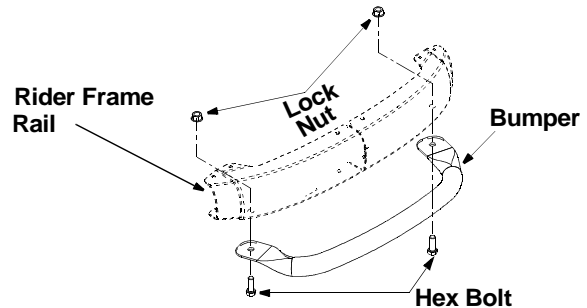

Figure 6
- Loosen and remove the two hex bolts and lock nuts from the front rail on the rider mower. See Figure 6 .
- Align the two holes on the bumper tube with the corresponding holes on the rider frame (from where you removed the hardware). See Figure 6.
- Re-insert the two hex bolts through the bumper and the rider frame and secure with the two lock nuts. See Figure 6 .